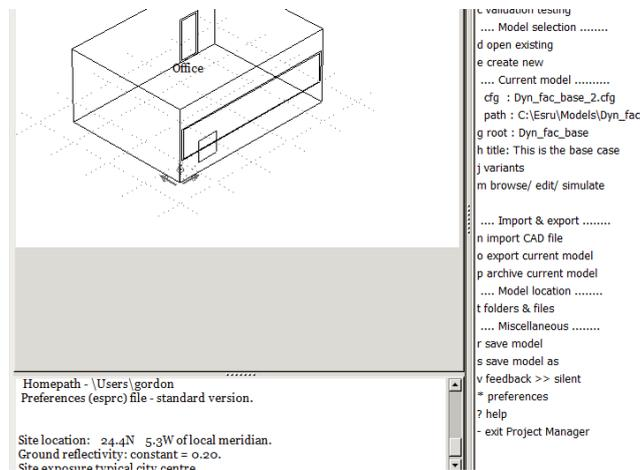

Figure 1
Step 2: click >*browse/edit/simulate* (figure 1)